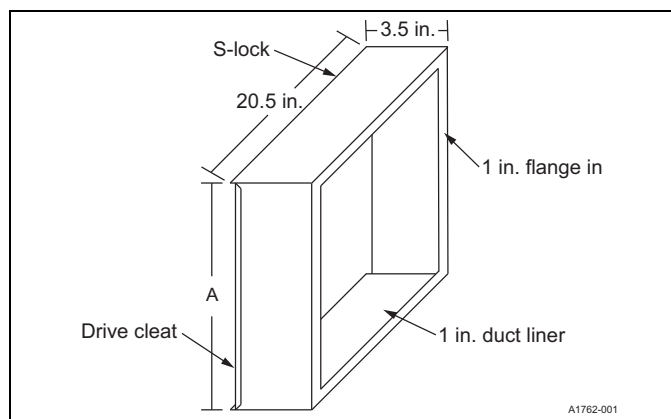

Figure 5: Duct system - modular blower - right hand
- Attach the two sections together using s-lock and drive cleats. See Figure 5.